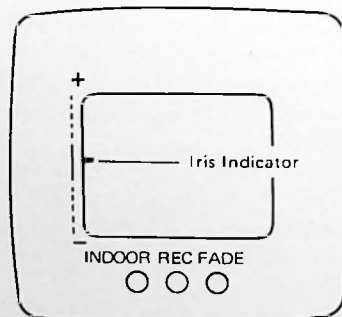

Fig. 4-4-50
- While observing the viewfinder, adjust IRIS INDICATOR LEVEL VR121 so that the iris indicator line located on the left side of the viewfinder is positions at the center. (Fig. 4-4-50)